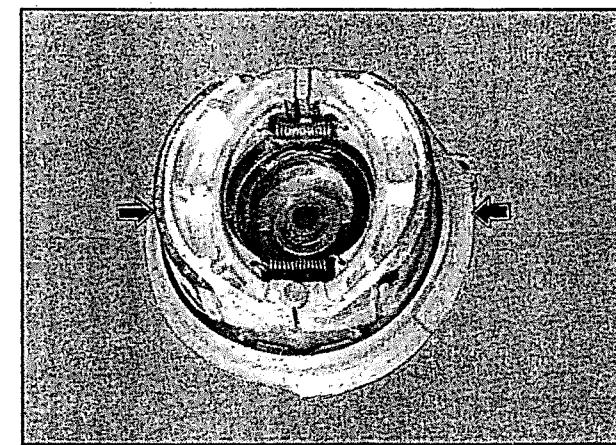

Fig 6.6
- Remove the brake shoes (fig 6.6)